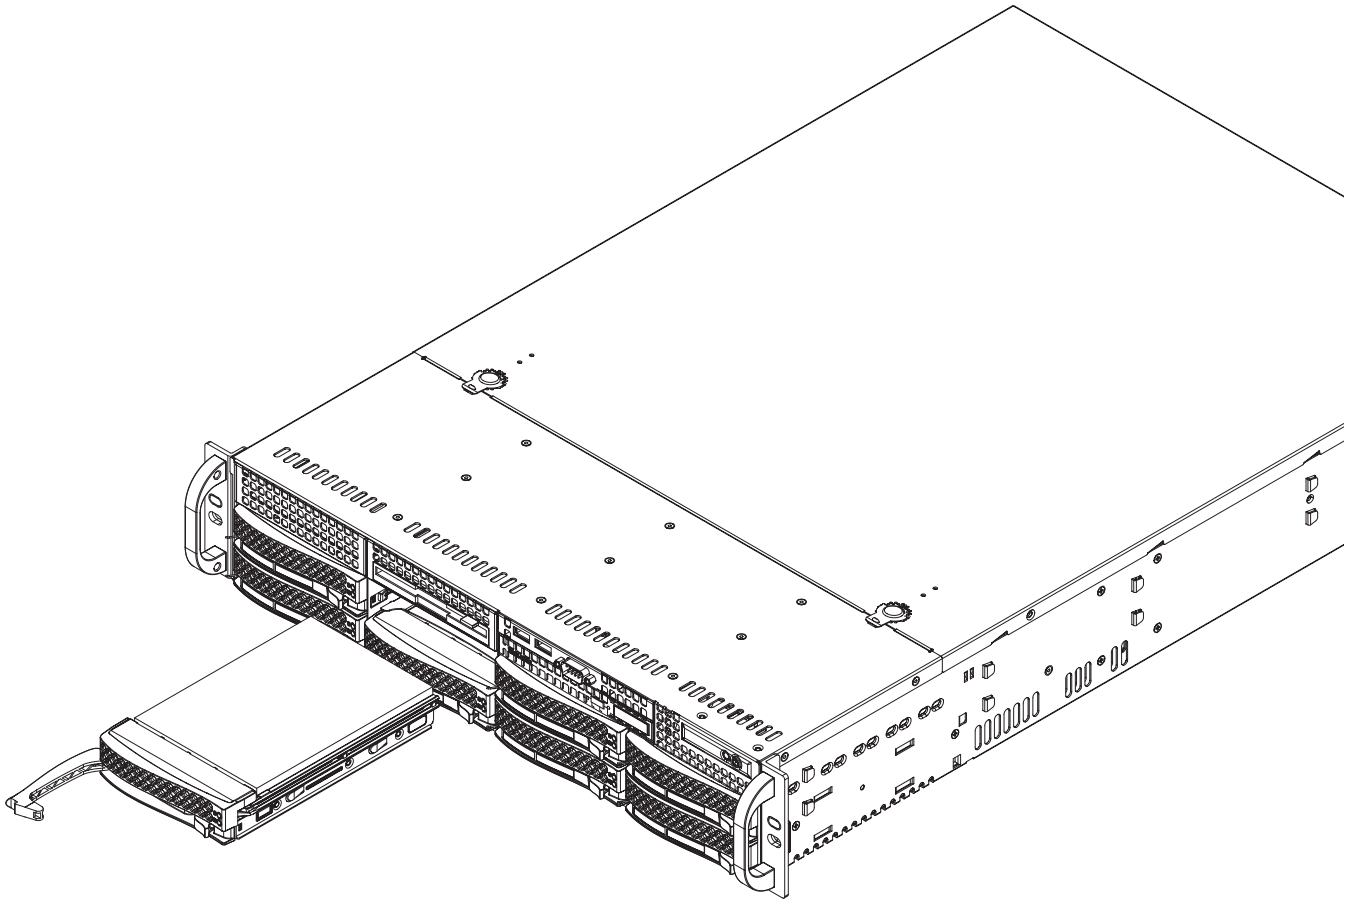

Figure 6-4 Removing a Disk Drive and Carrier
2. Swing the handle fully out and use it to pull the drive carrier straight out (see Figure 6-4).